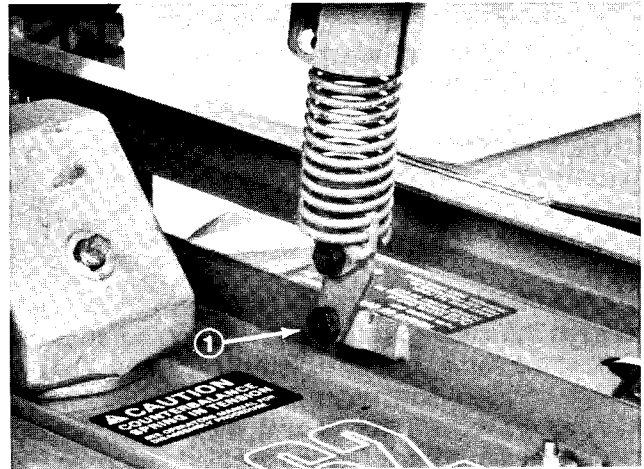

Figure 22
2. Remove the lower shoulder bolt from each weight transfer spring (Fig. 22).